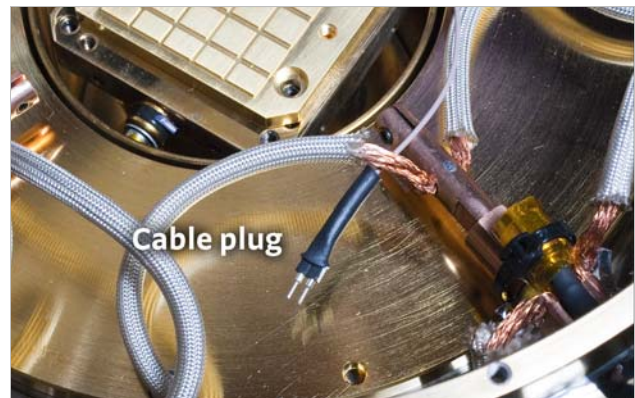

FIGURE 4-4 Left: Disconnecting the triaxial sample holder; Right: Cable plug left out after disconnecting
1. If you are removing an optional triaxial or coaxial sample holder, disconnect the signal cable before removing the sample holder from the sample stage (FIGURE 4-4). Using your fingers or tweezers, pull the cable plug out of the sample holder socket. The cable can be left as shown in FIGURE 4-4.